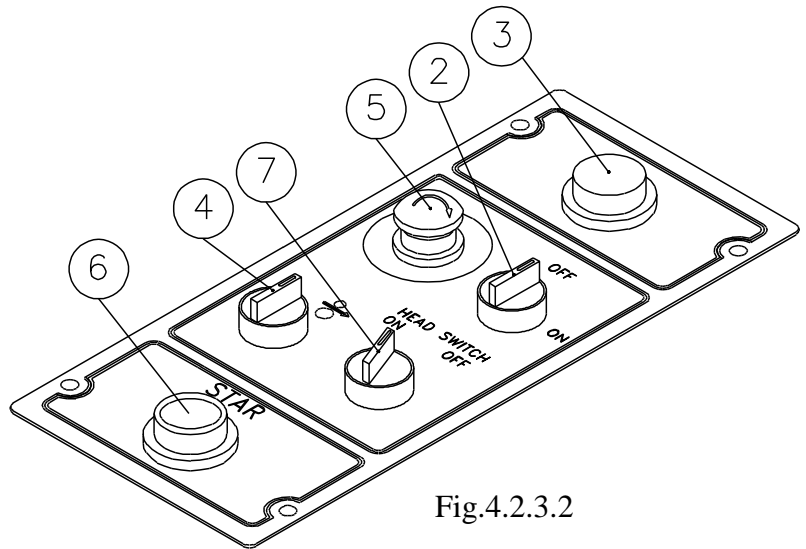

Fig.4.2.3.2
1. **POWER SWITCH-** The switch is mounted at the right hand side of arch. Before operating the machine, switch it to “ON” so that the power enters the control PCB panel. See Fig.4.2.3.1.